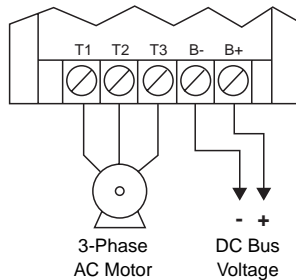

Figure 18: DC Bus Voltage Measurement Terminals
3. Set the voltmeter to the 1000 Vdc scale. Measure the voltage between the terminals B- and B+ (see Figure 18) to verify that the DC voltage is less than 45 V. **Do not short across capacitor terminals with voltage present!**